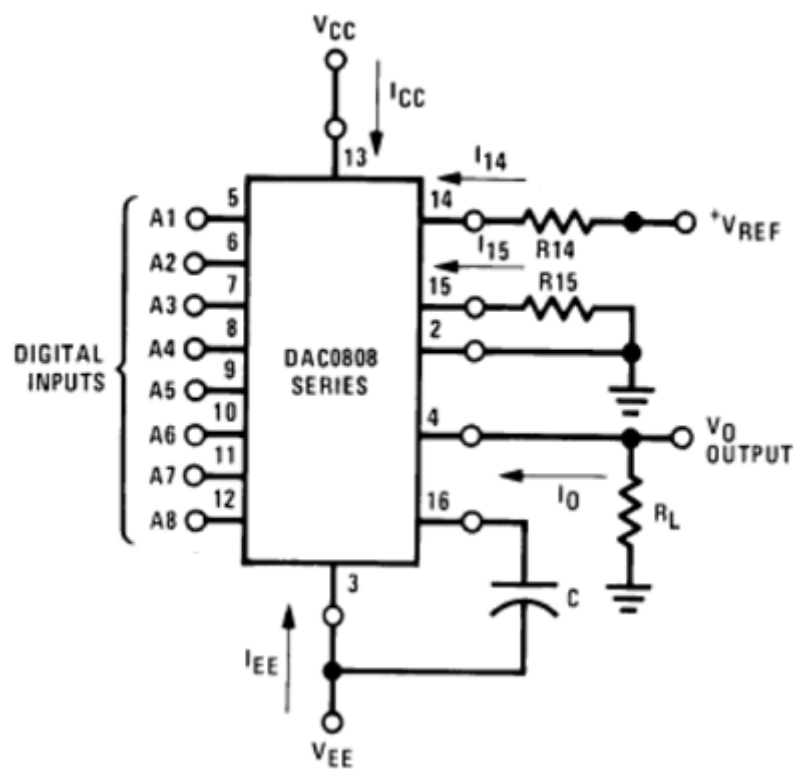

Figure 1
- 1- Connect the circuit given in Figure 1. Select $R_{14}=R_{15}=R_L=4.7\text{ Kohm}$, $C=100\text{ nF}$. Also connect digital inputs to the switches on the training set.